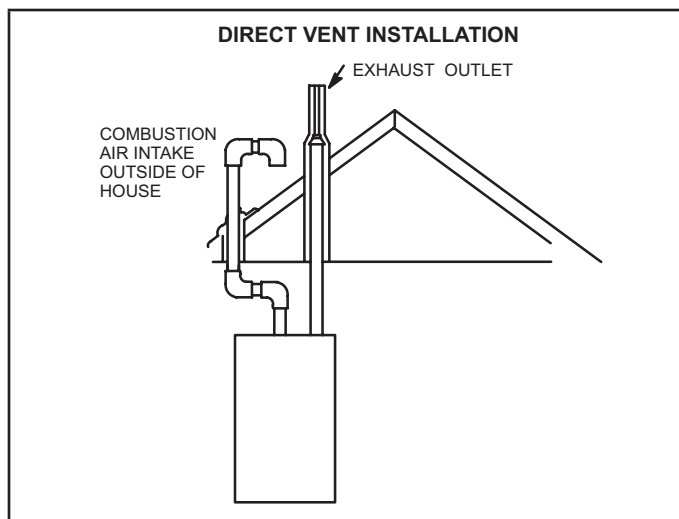

FIGURE 2
**NOTE** - In Direct Vent installations, combustion air is taken from outdoors and flue gases are discharged outdoors. See FIGURE 2 for applications including roof termination.